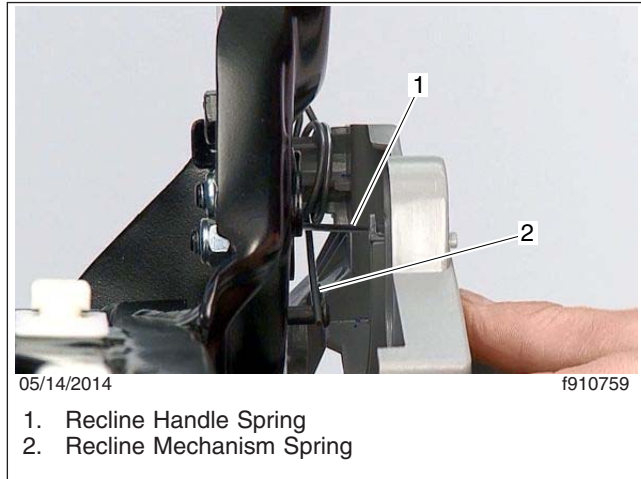

Fig. 5, Recline Mechanism and Handle Springs
6. Between the recline handle and seat frame, release the recline mechanism spring and the handle spring; see Fig. 5.
7. Set the end of the mechanism spring (the less angled spring, **Fig. 5**, item 2) against the stop on the mechanism stud.
8. Set the end of the handle spring (the more angled spring, **Fig. 5**, item 1) against the stop on the back side of the handle.